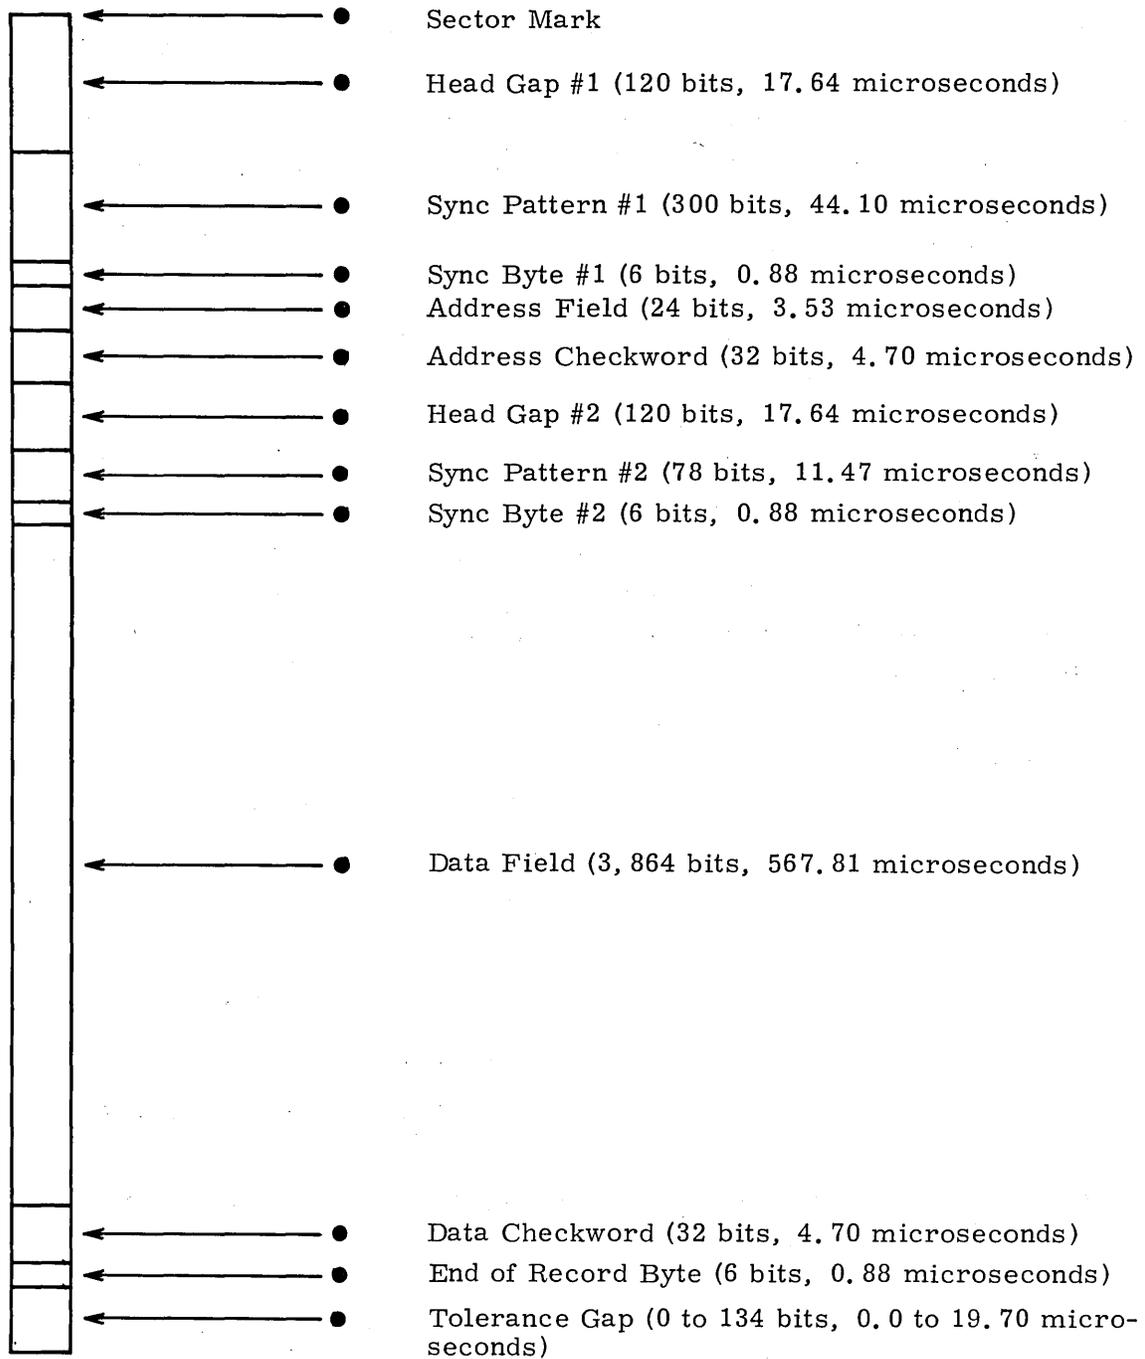
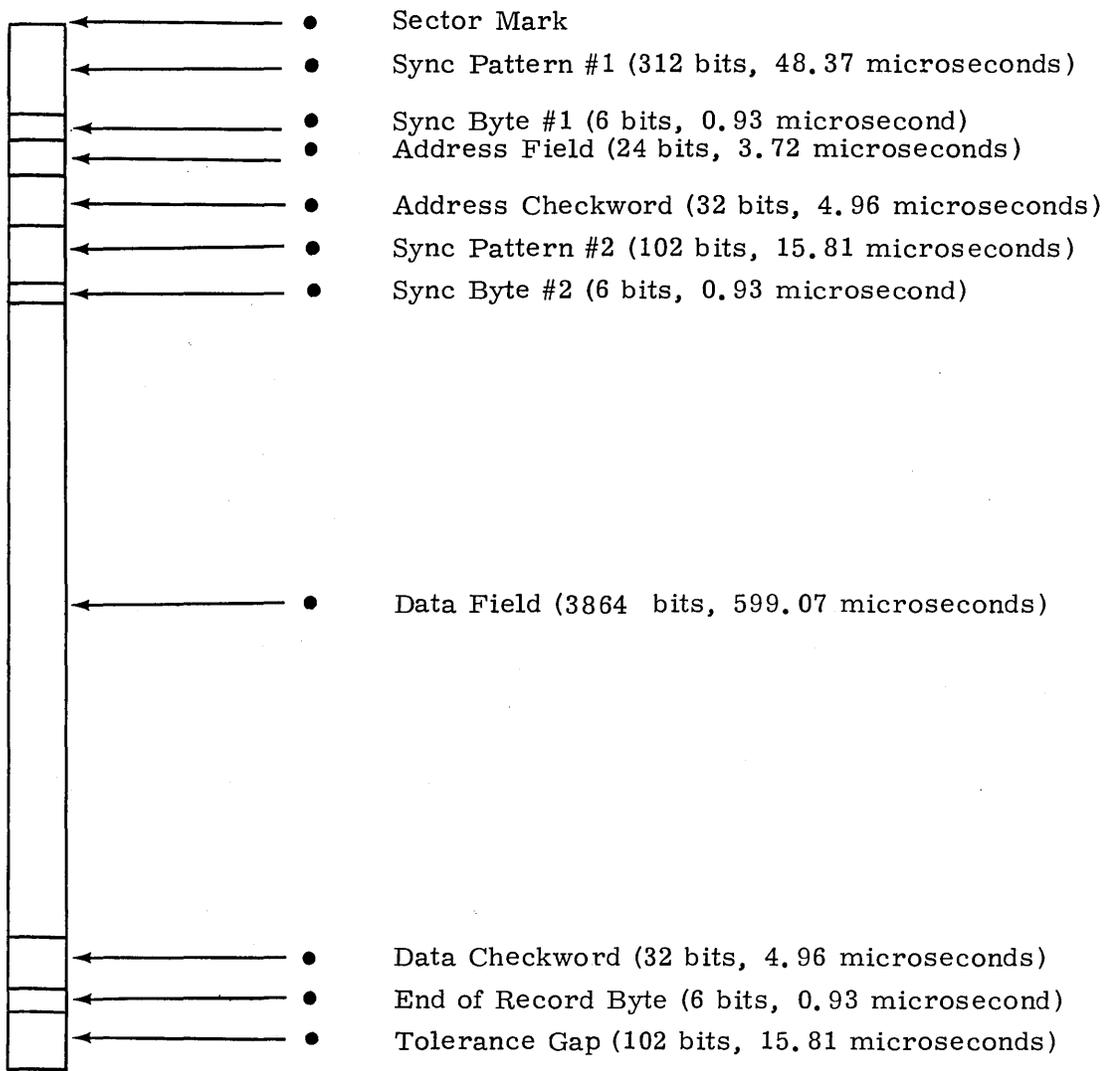

Figure 6-2. Sector Format for 844-2/21 (CYBER)
Figure 6-2.1 Sector Format for 844-41 (CYBER)
- A sector is the smallest addressable area on a disk and is further divided into information fields. Figure 6-2 shows the sector format for an 844-2/21 disk unit. The total number of bits in each sector is 4722. At 147 nanoseconds per bit, total sector time is 694.134 microseconds. Figure 6-2.1 shows the sector format for an 844-41 disk unit. The total number of bits in each sector is 4485. At 155 nanoseconds per bit, total sector time is 695.2 microseconds.
A disk sector (see Figure 6-2) consists of three types of information: